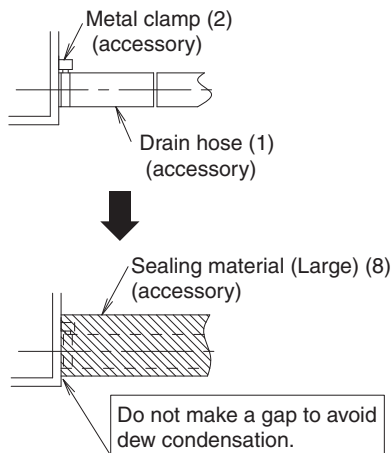

Fig. 25
- Make sure to use the attached drain hose (1) and metal clamp (2). Also, insert the drain hose (1) into the root of the drain socket, and tighten the metal clamp (2) at the root of the drain socket tightly. (Refer to Fig. 25 and 26)
- When performing insulation, wind the sealing material (Large) (8) attached starting from the base of the metal clamp (2) and drain hose (1) in the direction of the arrow. **(Refer to Fig. 25 and 26)**